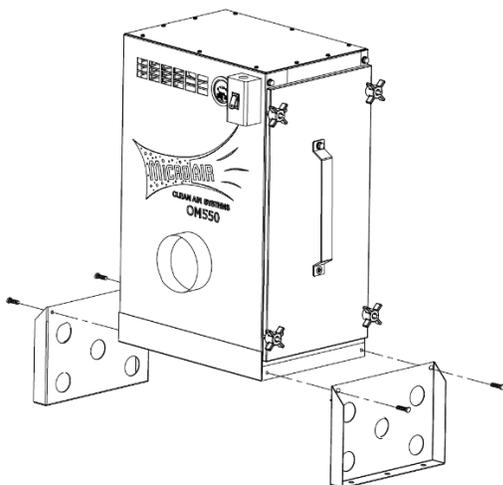

FIG.1
2. Use the bolts removed in Step 1 to secure Machine Mounting brackets to unit as shown in FIG.1.